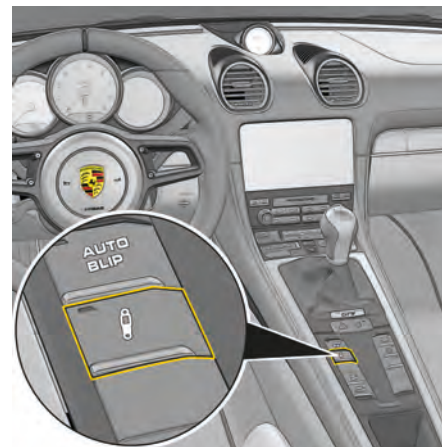

Fig. 101: PASM button in center console
- ▶ Press button (Fig. 101) repeatedly.
- The button (Fig. 101) **does not light up**: "Normal" suspension (default setting).
- The button (Fig. 101) **lights up**: "Sport" suspension selection.